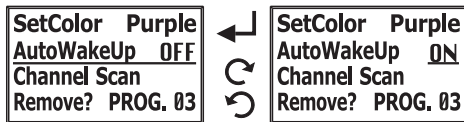

Fig. 23
(N) AutoWakeUp function, Fig. 23: Enable or disable Auto Wake Up function.